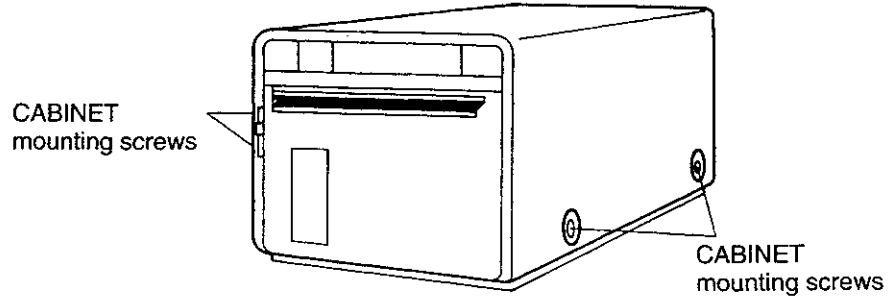

Fig.1-1
1. Remove the 4 screws securing the CABINET. (Fig.1-1)
1. Remove the CABINET. (Fig.1-1)
1. Remove the CABINET.(Fig.1-1)
1. Remove the CABINT. (Fig.1-1)